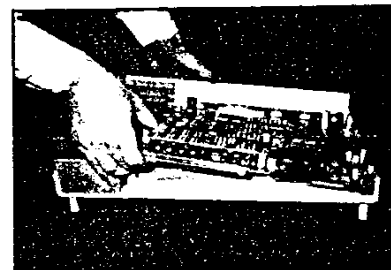

Fig. 2-13. PCB Removal
2.6.3 Gently lift the PCB from the bottom case. To clear the mouse connectors, you will have to lift the power supply side of the board up first and lightly push the right-side bottom housing away from the PCB. The rear panel housing will come off with the PCB and may require slight pressure during PCB removal to keep it from binding in its tracks, as shown in Fig. 2-13.